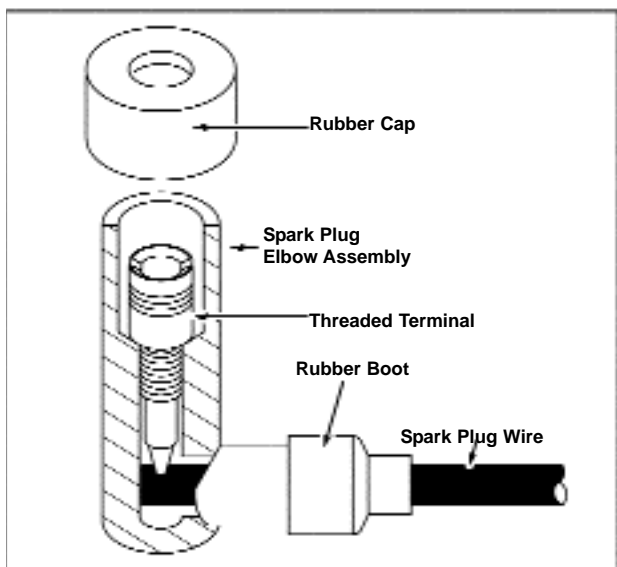

Figure 71 - Installing Spark Plug Elbow
1. Insert spark plug wire through rubber boot into elbow until wire stops, Figure 71.
2. Install threaded terminal with a screwdriver or until terminal pierces wire and bottoms, Figure 71.
3. Install rubber cap on elbow, and slide rubber boot onto elbow, Figure 71.